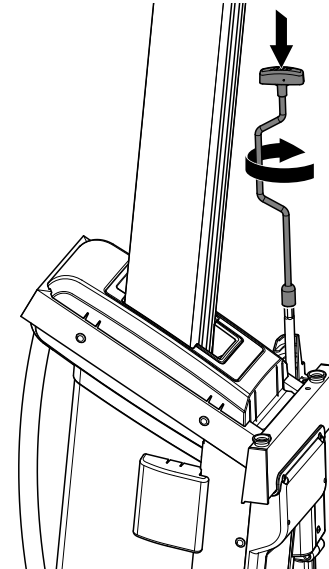

Figure 6-4. Loose rope being re-tensioned
4. Connect the manual descent handle directly to the carriage drive shaft (Figure 6-4.). Press down on crank and simultaneously rotate clockwise. You will hear a ratcheting noise and the drum will wind up the slack rope.